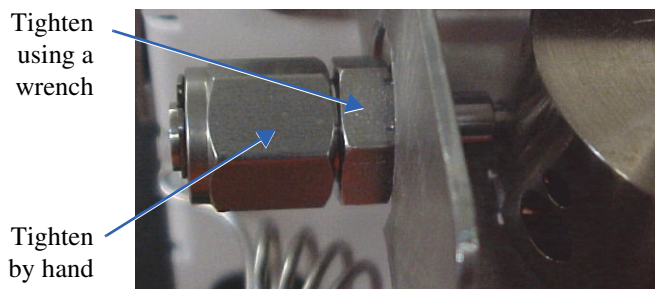

Figure 11.3. Tighten the assembly
4. Tighten as indicated in Figure 11.3.